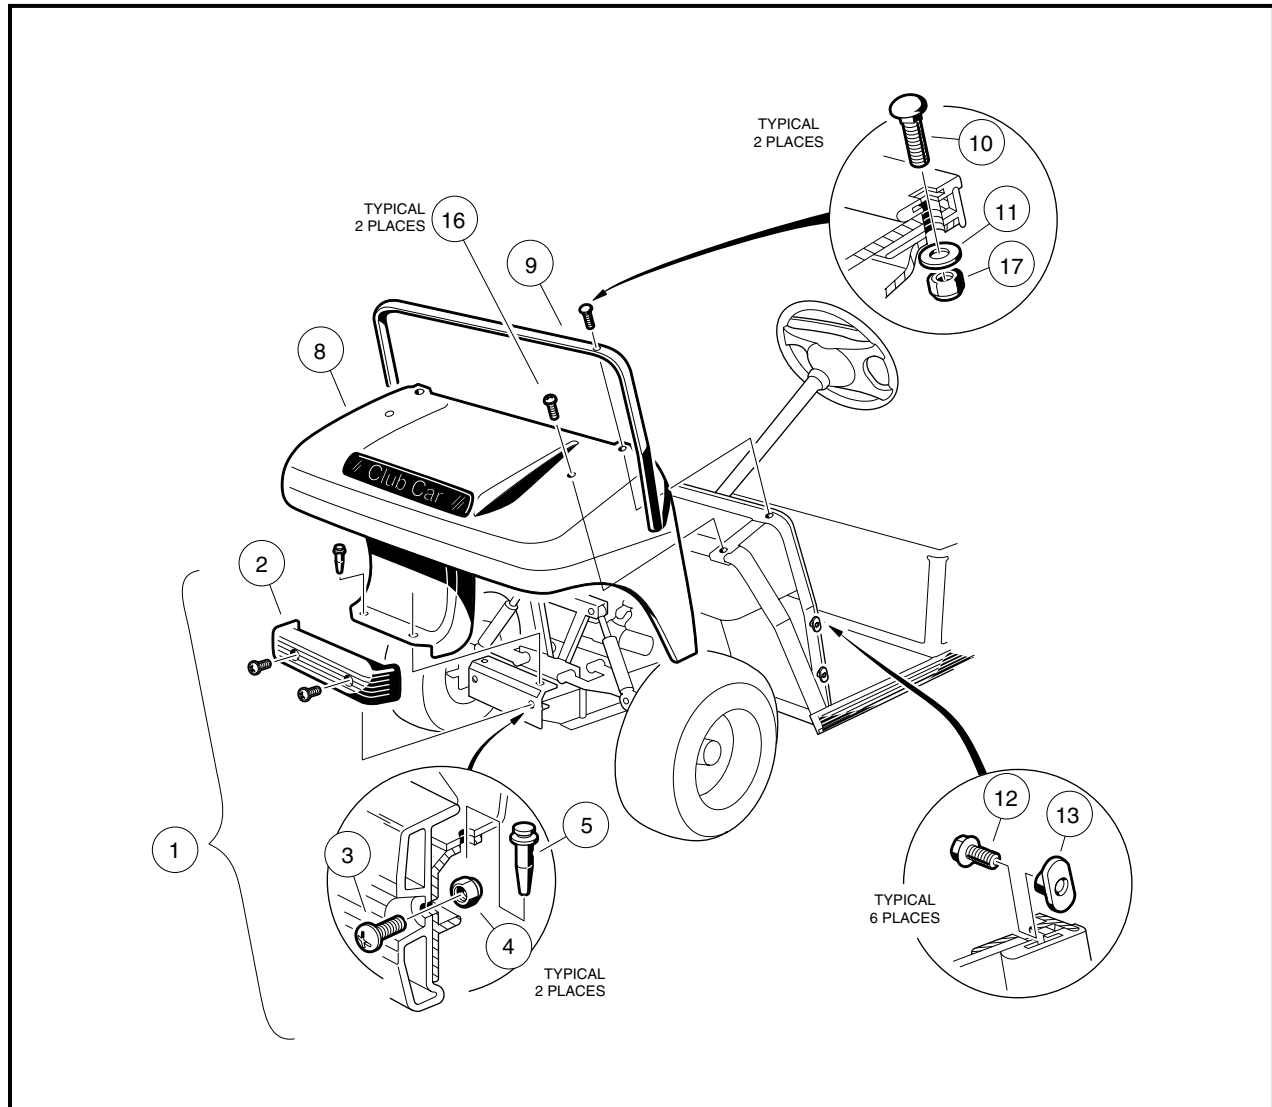

Figure 4-1 Front Body Assembly
3. Remove screws (3) and lock nuts (4) and lift front bumper (2) from vehicle frame (**Figure 4-1, Page 4-4**).
4. Remove blind rivets (5).
5. Remove carriage bolts (10), lock nuts (17), and washers (11) from front body trim. Remove screws (16) from top of front body.
6. Loosen, but do not remove, screws (12) holding front body trim against front body.
7. Pull front body (8) from under trim (9) and remove the body from the vehicle.
1. Install front body (8) under trim (9), align holes and finger-tighten screws (16) holding front body against frame (**Figure 4-1, Page 4-4**).
2. Install carriage bolts (10), washers (11) and lock nuts (17) onto front body trim. Tighten bolts to 11 ft-lb (14.9 N·m). Tighten screws (16) to 20 in-lb (2.3 N·m).
**NOTE:** If installing a new front body, two 5/16-inch holes must be drilled after the body has been placed on the vehicle. Use the body trim (9) as a guide for drilling the holes (**Figure 4-1, Page 4-4**).
3. Tighten screws (12) holding front body trim against front body to 17 in-lb (1.9 N·m).
5. Install push-type blind rivets (5) that secure lower part of front body to frame.
6. Install front bumper onto vehicle with screws (3) and lock nuts (4). Tighten to 65 in-lb (7.3 N·m).